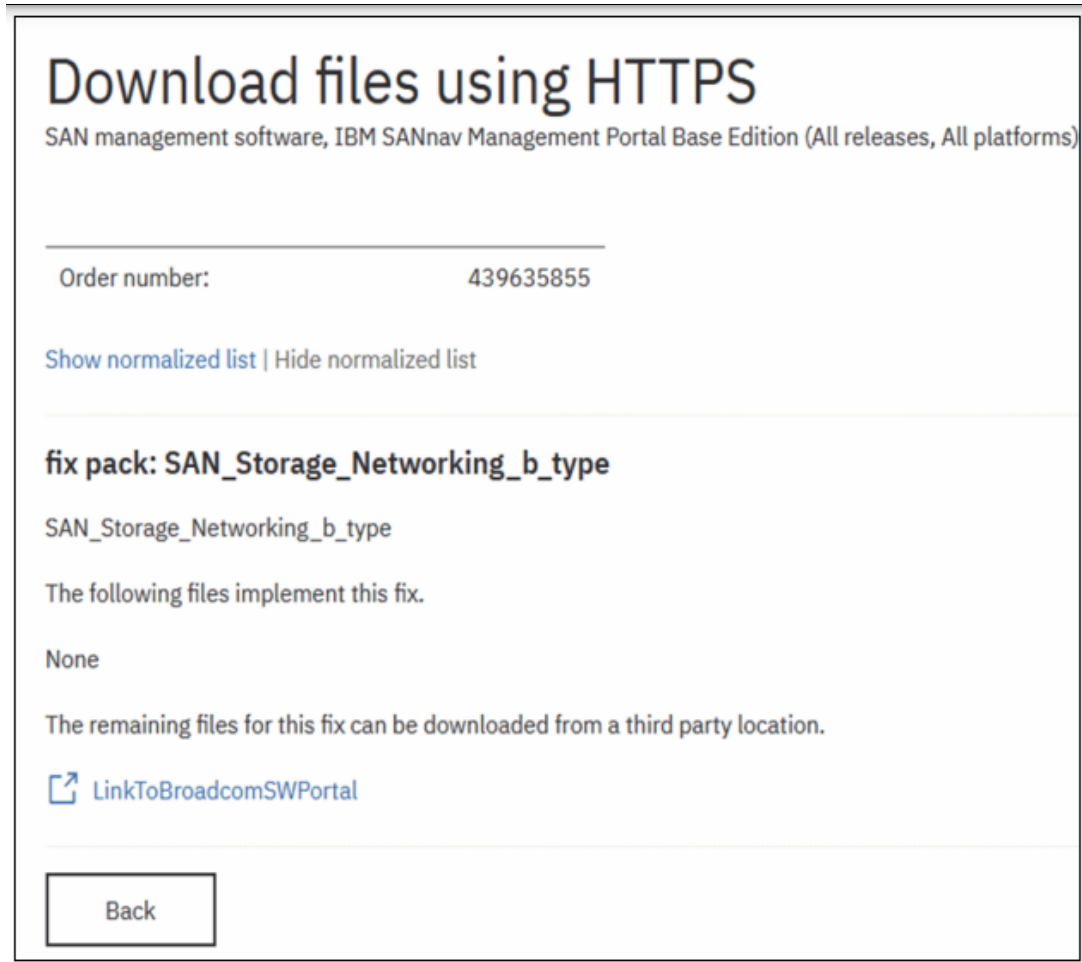

Figure 9-10 Link to the Broadcom software portal
- Click **Continue**. You will be presented with a customized link to the Broadcom software portal. See Figure 9-10 on page 151.